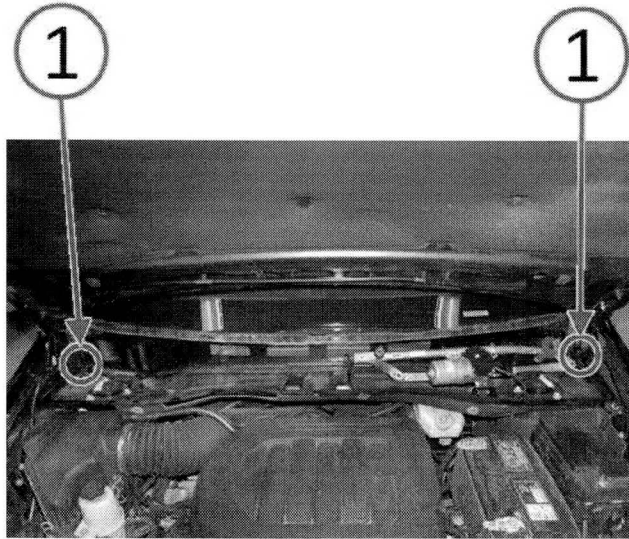

Fig. 1 Area Under The Cowl Panel Cover
2. Remove the cowl panel cover to access the outboard end rear corners (1) of the lower plenum (Fig. 1). Refer to the detailed procedure in DealerCONNECT> TechCONNECT> Service> 23 - Body> Exterior> COVER, Cowl Panel> Removal.